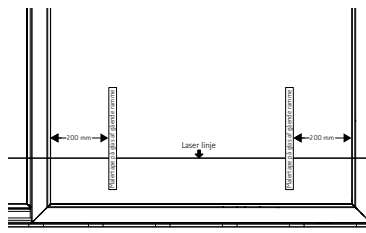

Figure 17: Laser position 3 – adjust all blocks so lines match laser
- Each block from step 13 is adjusted in height by sliding the sash back and forth so one of the tape pieces is directly above the block (repeat for all blocks) (figure 17).